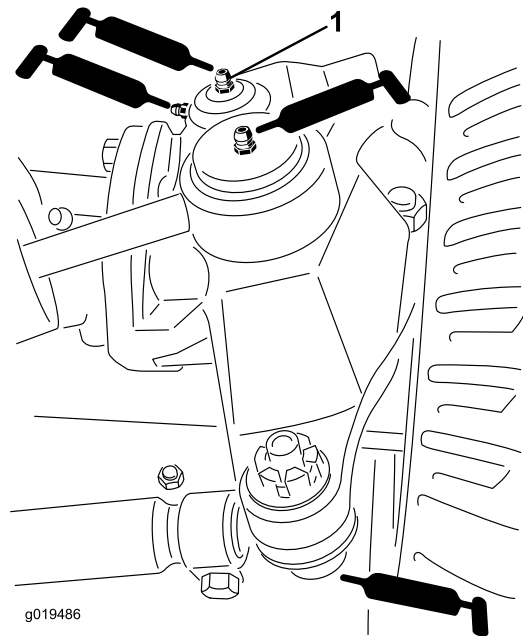

Figure 42
- Rear axle tie rod (2) (Figure 42).
- Steering cylinder ball joints (2) (Figure 42).
- King pin bushings (2) (Figure 42). **The top fitting on the king pin should only be lubricated annually (2 pumps).**